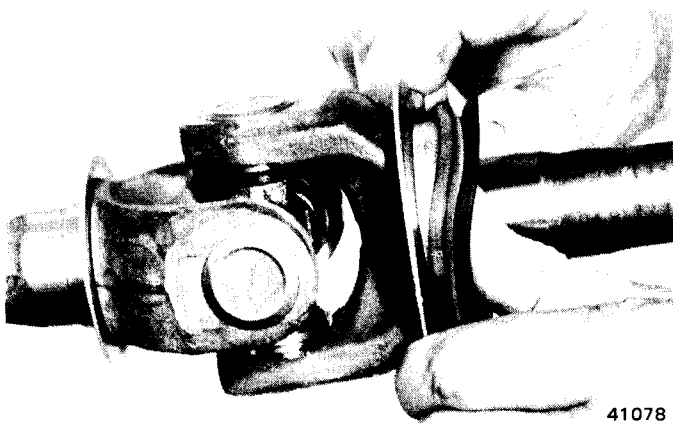

Fig. 10-13 Axle Shaft Seal Replacement
(1) Remove seal (fig. 10-13).
(2) Remove bronze thrust washer. If washer is worn, replace it.
(3) Clean area of dirt and foreign matter.
(4) Install bronze washer with chamfered side toward axle shaft seal.
(5) Install seal. Direct lip of seal toward spindle (fig. 10-13).
(6) Pack wheel bearing grease around thrust face of shaft and seal. Fill seal area of spindle with wheel bearing grease.